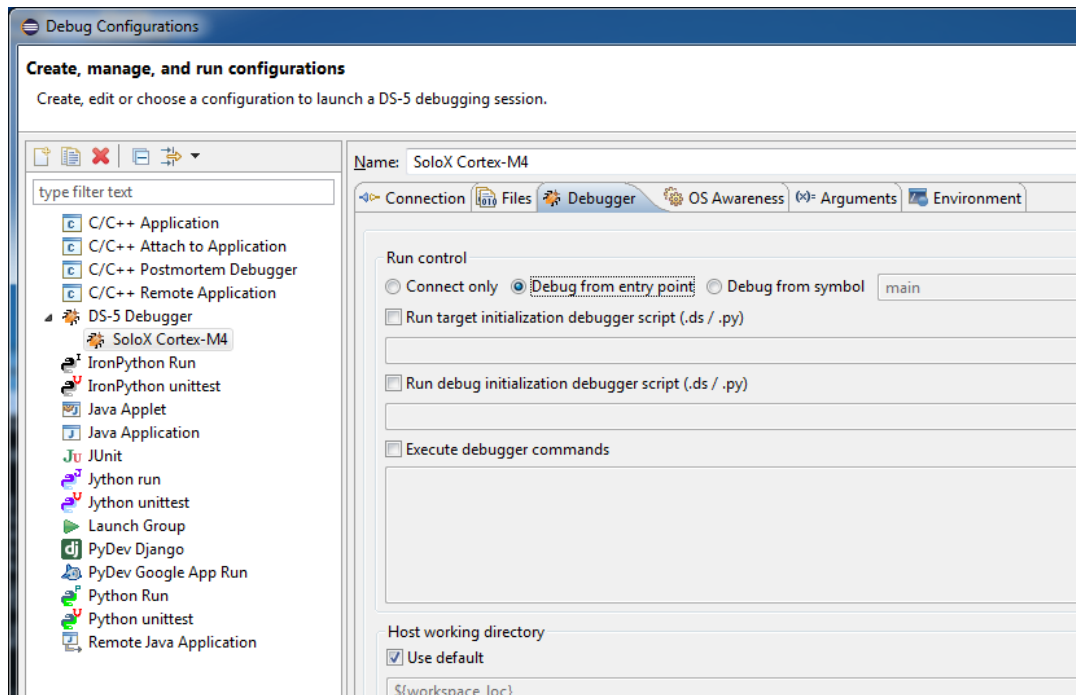

Figure 13 - Debug from entry point
7. Go to the “Debugger” tab and select “Debug from entry point” as shown Figure 13.